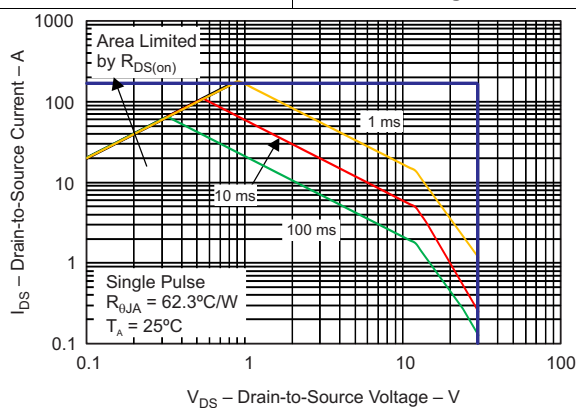

Figure 27. TPS2475x Maximum Safe Operating Area (SOA)
(2) The temperature difference between PAD1 and PAD2 must be minimized. See the SOA curve Figure 27 and DESIGN EXAMPLE for temperature limited design.